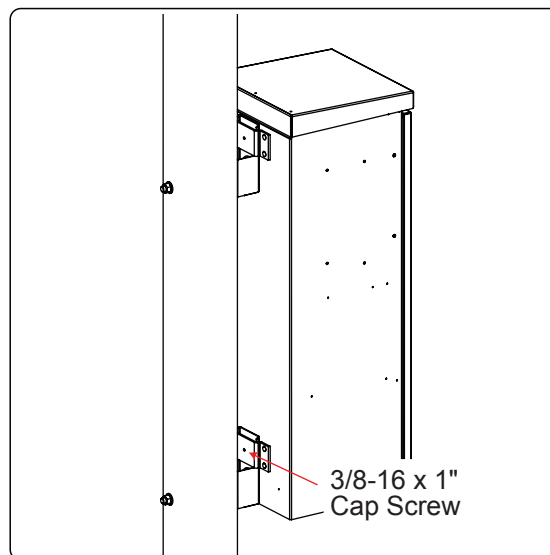

Figure 5.5 - Completed installation
5. Position the enclosure so that the upper and lower straps are aligned to be seated onto the mounting brackets. It may be necessary to slightly rock the enclosure and pull downward to properly seat it onto the brackets (Figure 5.5).